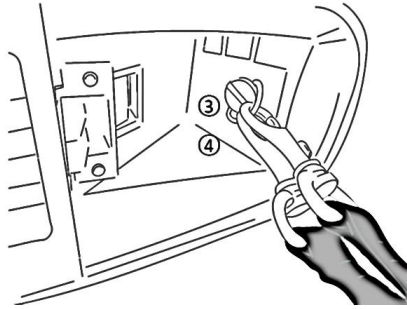

Figure 8-4 ③ and ④ fixed positions
- 2) Hang the two remaining buckles on the back of the battery compartment bottom(see Figure 8-4), as the ③, ④ fixed positions;
In System Settings, you can set the [Icon Hide Delay] time of the icons. If the some icons are hidden (see Figure 8-4) to change to Live Image Mode, please touch the screen or short press the right button to display all icons (changed to Menu Navigation Mode).